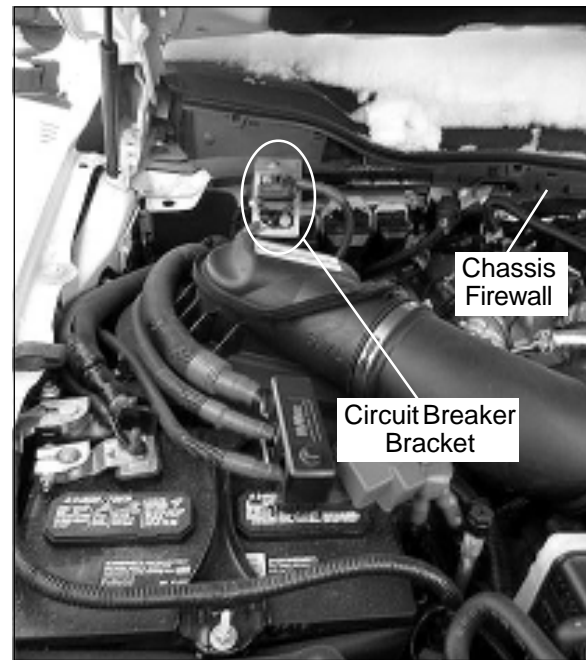

Figure 1 — Circuit Breaker Bracket Location
2. Locate the circuit breaker bracket bolted to the top edge of the firewall (refer to Figure 1).